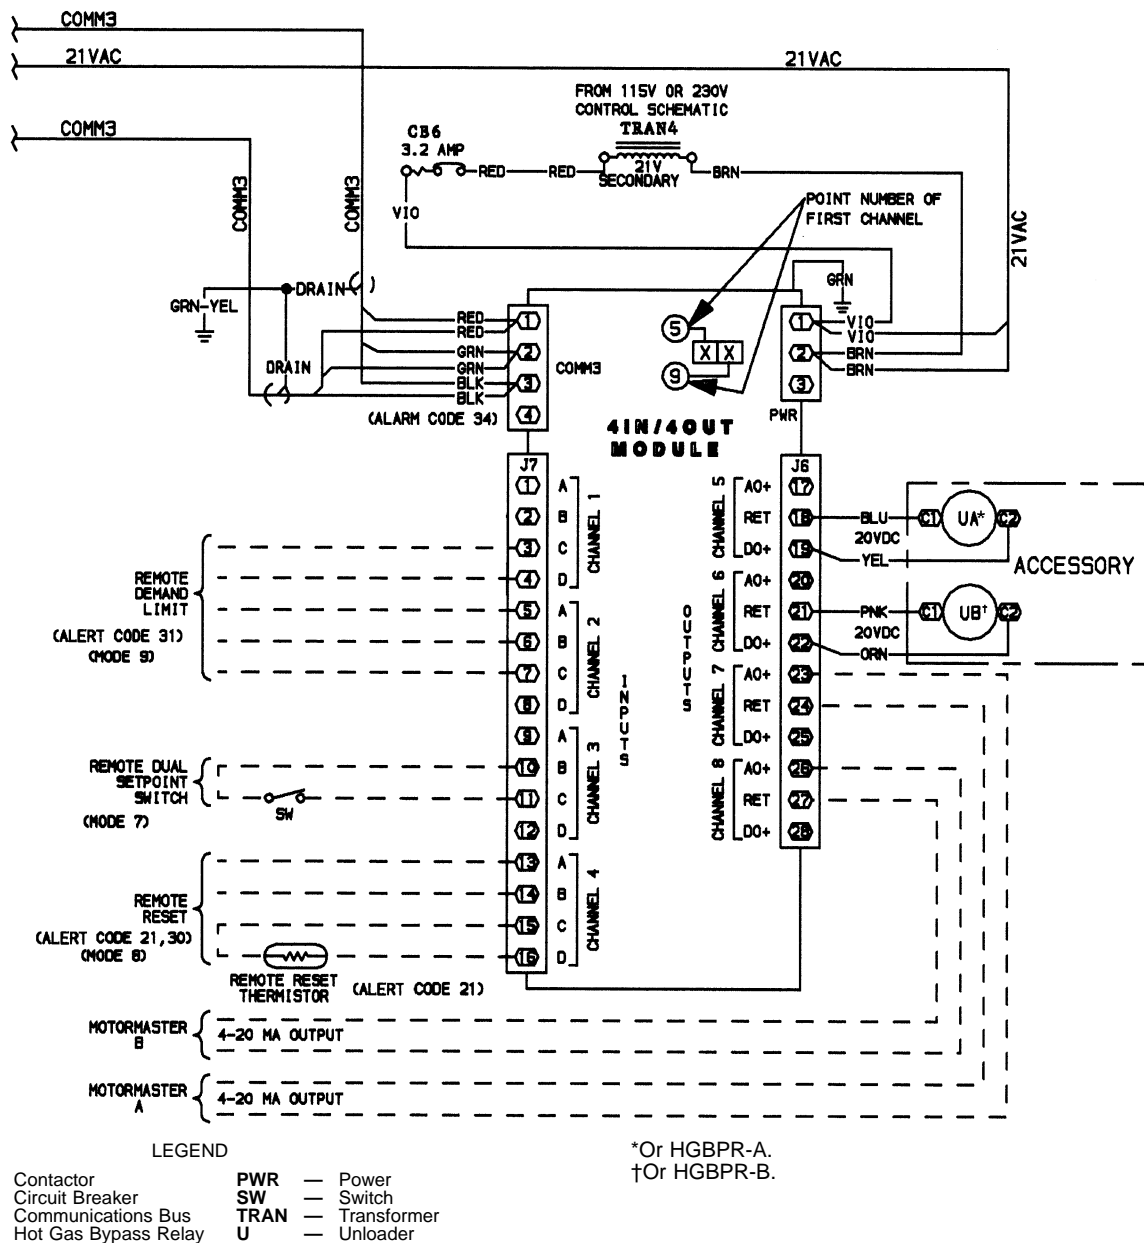

Fig. 23 — Accessory Unloader Control Wiring, All Units
Wire the primary side of the transformer in parallel with TRAN4. See Fig. 23. This supplies transformer with proper line voltage. Be sure to connect proper tap of the transformer to ensure supply of proper secondary voltage.
1. Install control wiring. The minimum wire size for installation is 16 AWG (American Wire Gauge). Refer to Fig. 23 and 24 for proper wiring. Open the control box door. Locate unloader relays A and B (UA, UB) in place of the hot gas bypass relays as shown on the component arrangement diagram on the unit. Mount the relays with the field-supplied screws. Be careful not to damage the components and wiring in the area when mounting the relays.